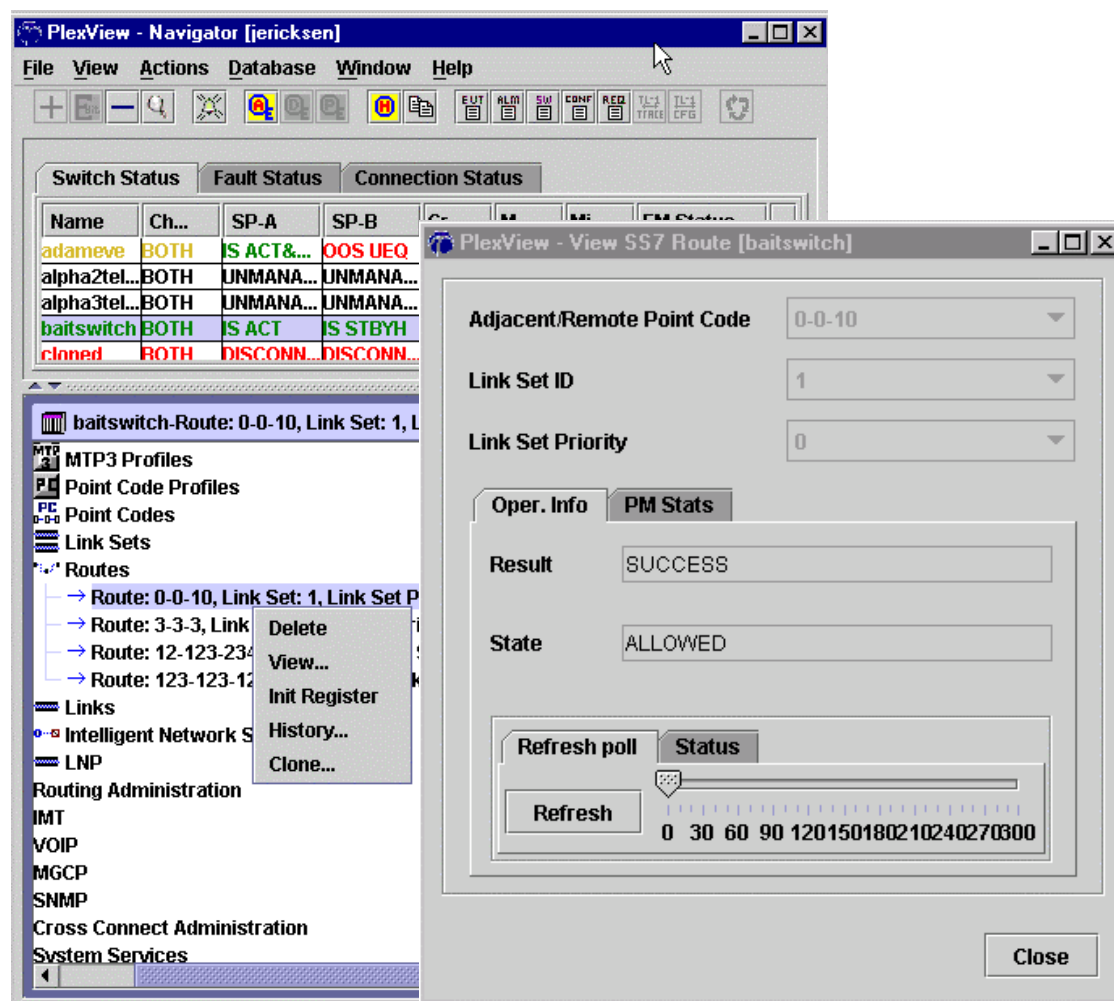

Figure 7. SS7 Route Status
36. Retrieve the status of an SS7 route. Double-click *SS7* and then *Routes*. Right-click a route and select *View, Oper. Info* and then click *Refresh* near the bottom of the panel for the latest information. See Figure 7.